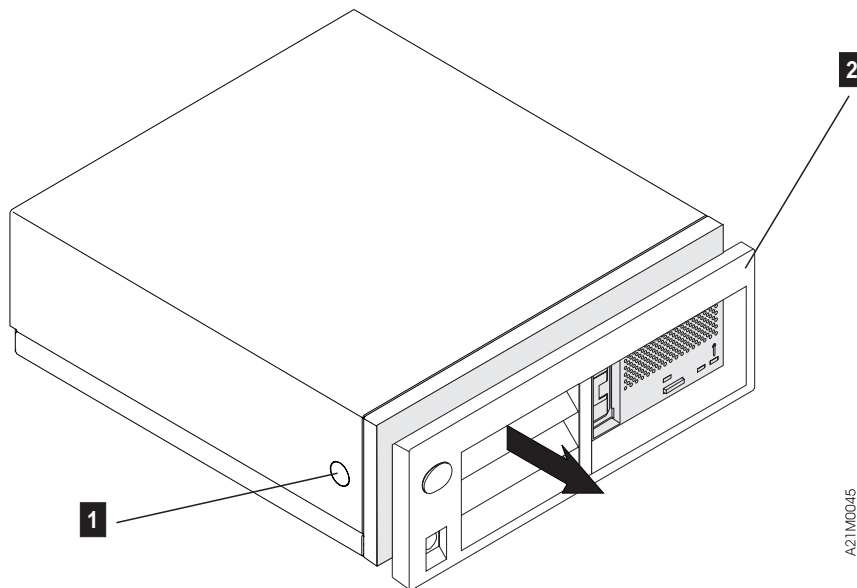

Figure 15. Removing the Front Cover from Model B00
In those infrequent cases when turning the power off and then on again does not work, perform the following steps in the order indicated (see Figure 15):
**Note:** There is a corresponding tab on the opposite side of the chassis to the one shown as **1** in Figure 15.